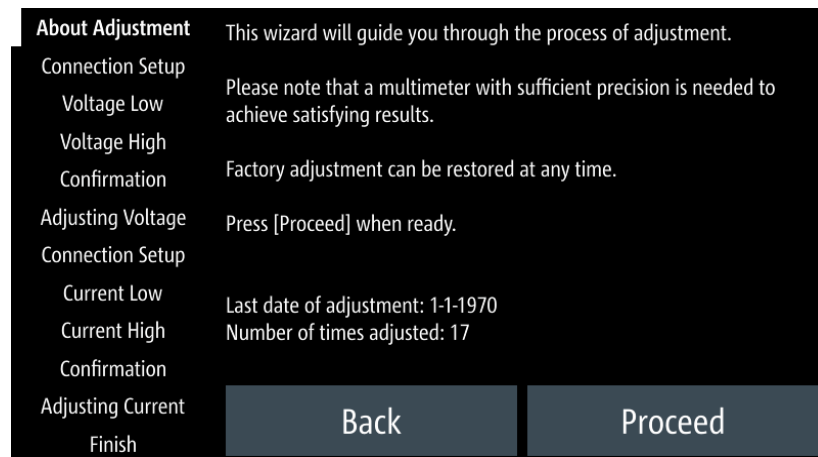
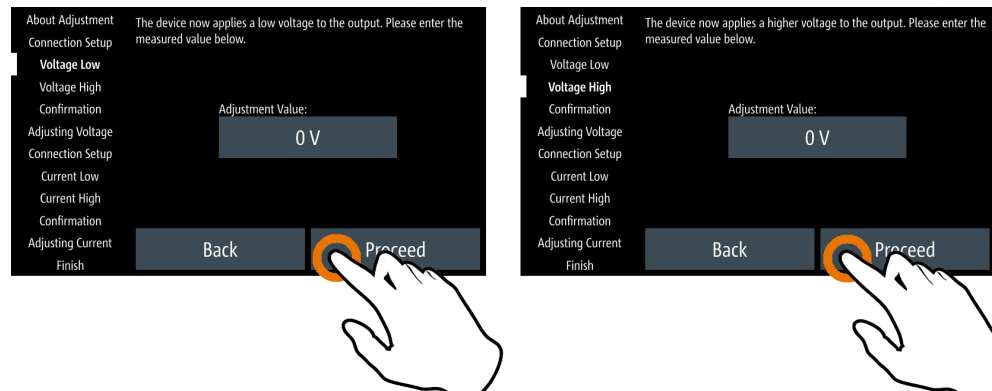

Figure 5-45: Channel adjustment wizard
Figure 5-46: Channel adjustment procedure
- Follow the on-screen instructions displayed in the Figure 5-45. The R&S NGP800 applies a low voltage/current followed by a high voltage/current for voltage/current adjustment. Key in the measured value from DMM using the on-screen keyboard. See Figure 5-46.